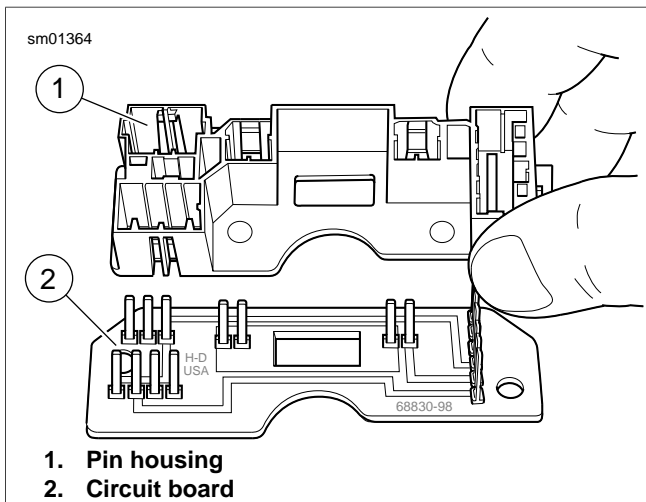

Figure 7-29. Pin Housing and Circuit Board
4. See Figure 7-29. Remove screw, pin housing and circuit board from base.